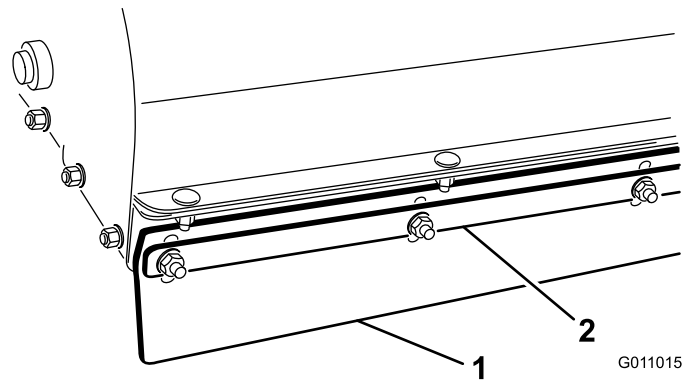

Figure 20
1. Loosen the nuts securing the metal strap and the front flap to the brush housing (Figure 20).